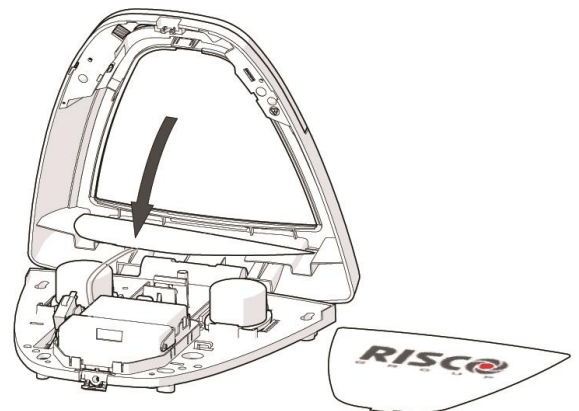

Figure 3
2. Push down on the backlight latch and open the internal cover (see Figure 3).
3. Retrieve the branded logo (see Figure 3).